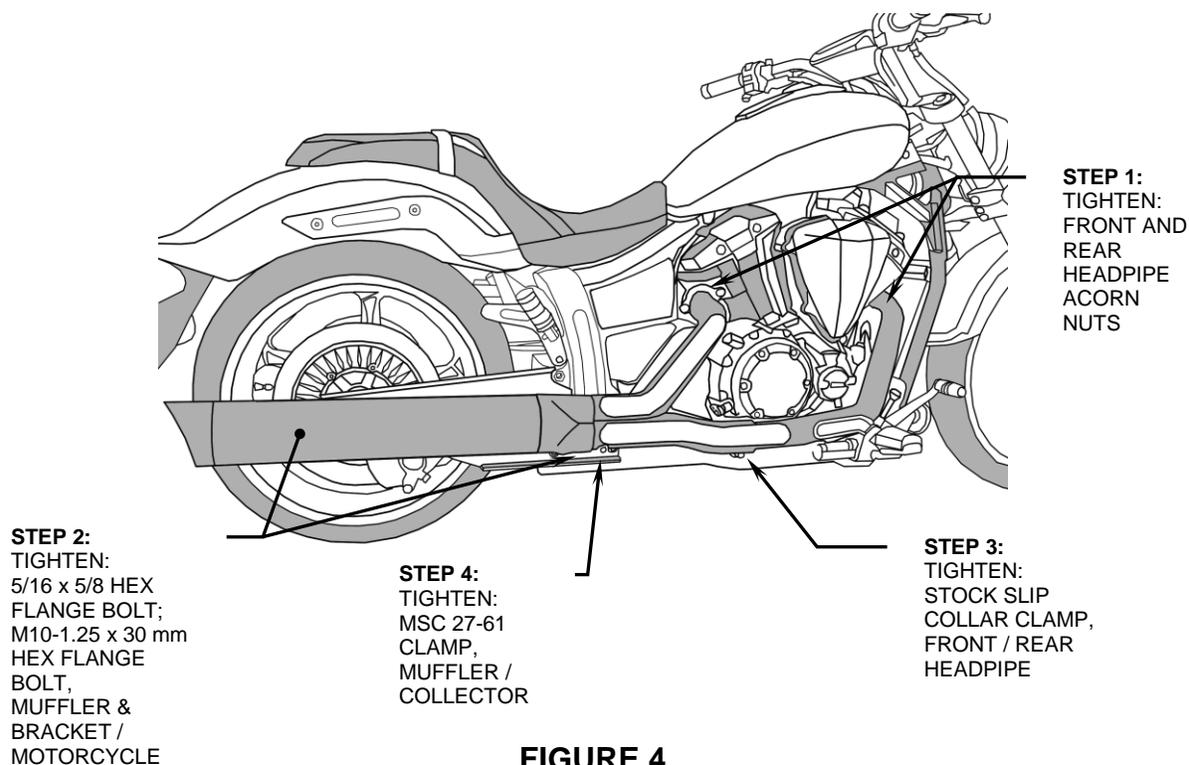

FIGURE 4
9. Follow this sequence for fully tightening all of the exhaust components: First tighten the acorn nuts securing each headpipe, both front and rear. Next, fully tighten the 5/16 X 5/8 and M10-1.25 x 30mm hex flange bolts securing muffler and bracket to motorcycle. Continue by tightening the stock slip collar clamp between front and rear headpipes. Finally tighten the MSC 27-61 clamp securing the Cobra muffler to headpipe collector. See Figure 4, for tightening sequence.